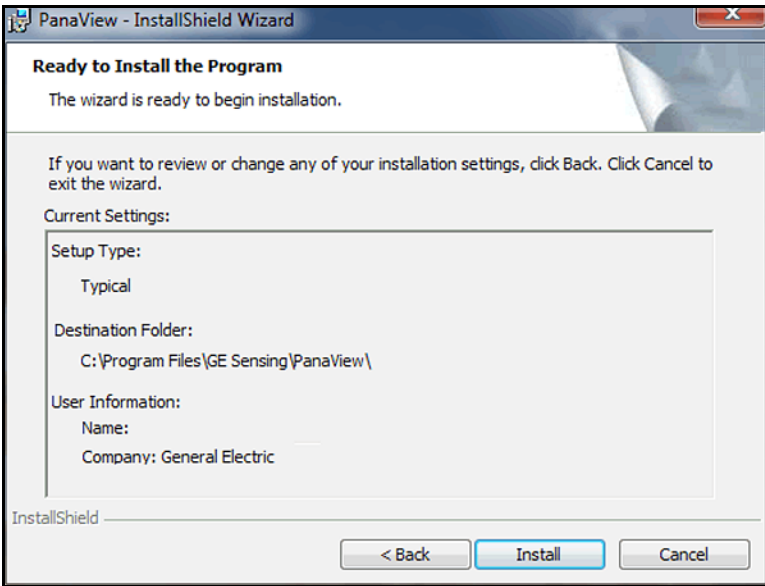

Figure 8: Ready to Install the Program Screen
7. The screen shown in *Figure 8* below lists the entries made at the previous screens. If this information is correct, press the [Next] button to begin installing the PanaView files.